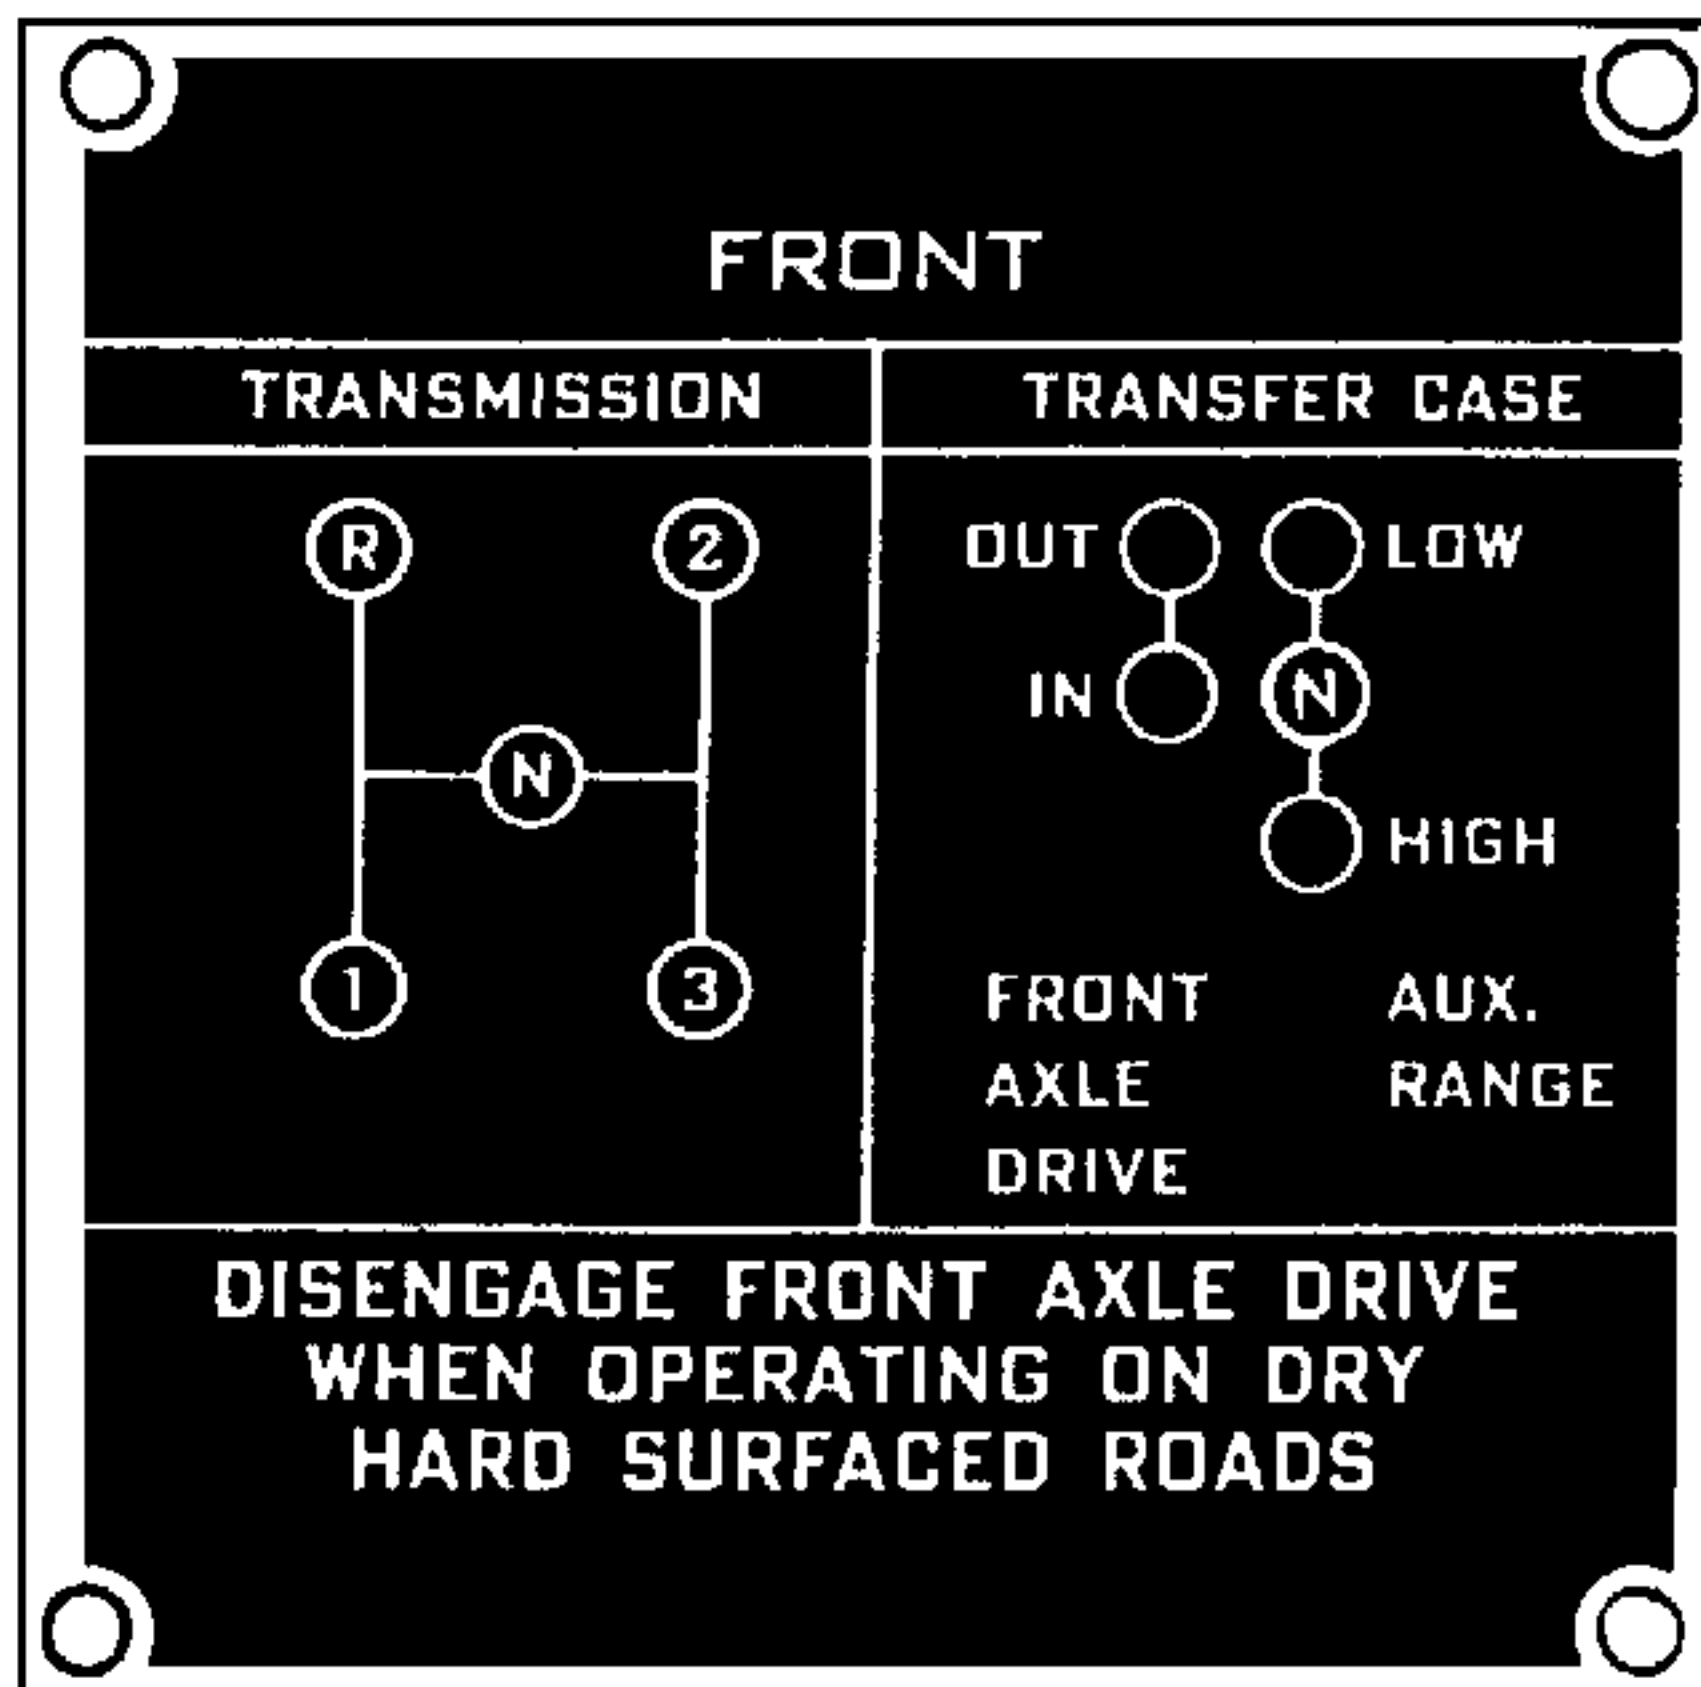

FIG. 4—SHIFT PLATE
**Transfer Case Shifting Instructions—Fig. 4**
Proper position for disengaging axles to use power take-off unit is shown as "N" in Fig. 4.
This lever is used to shift the gears in the transmission. There are four positions in the movement of the lever in changing the gears in transmission. See diagram for lever location in different gears. Fig. 4.
1. Transmission gearshift lever must be in neutral position. See Fig. 4.
3. Move transmission shift lever toward driver and back for first gear. Fig. 4.
Instructions for shifting gears in transfer case and engagement of the front axle drive are as follows: No. 21, Fig. 1 and Fig. 4.
2. When vehicle speed has been reduced to idling engine speed, disengage clutch and move transmission shift lever, No. 18, Fig. 1 to neutral position. See Fig. 4.
2. Shift transmission lever to the left and forward toward instrument board. Fig. 4.